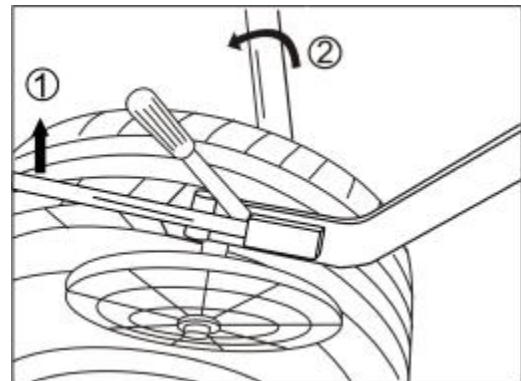

Fig.24
- I Draw out the disk, and make the disk under the lower bead, but not under rim. Insert the tyre lever between the head and bead and press it down. Lift the control lever up to break the bead from rim groove. Make the lower tyre bead opposite to mount/demount head enter into the rim groove, and prize the lower tyre bead onto the ball protuberance (fig.24).